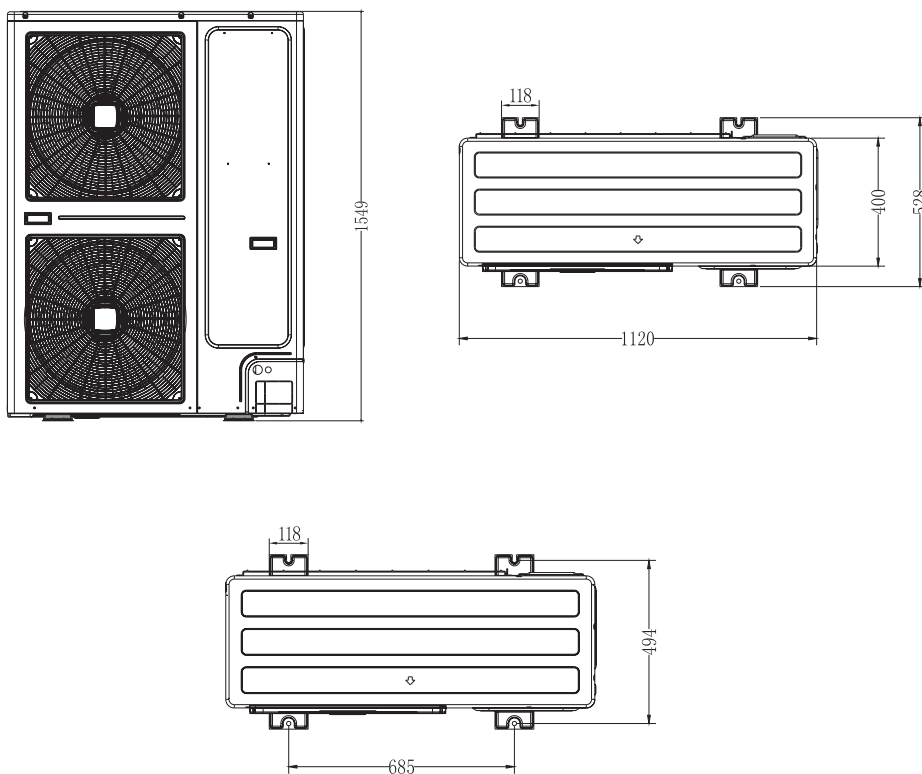

Fig. 3-1 (260/280/335)
- 1) Fig. 3-1 refers to 12.5 kW (200V-220V), 14 kW, 16 kW models.